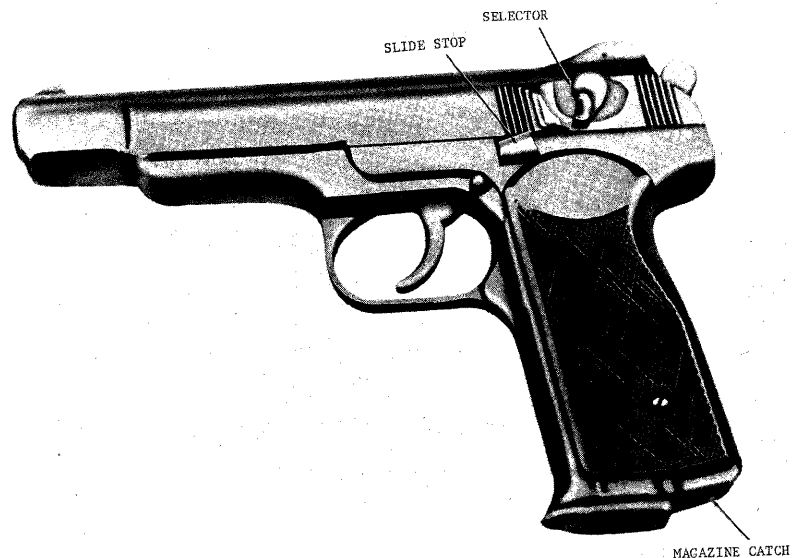

Figure 21. Soviet Stechkin machine pistol (APS).
a. Machine pistols resemble conventional pistols, but have one major distinguishing characteristic—a selective fire option; i.e., they can be fired either automatically or semiautomatically. In addition, these pistols usually have large-capacity magazines and some type of a shoulder brace or stock to aid in accurate long-range firing. The Soviet Stechkin machine pistol (fig 21) was issued in limited numbers, and although now obsolete, it may be in use by special units such as border guards, security police, or in countries given Soviet military aid.
- a. Insert the magazine into the pistol until the magazine catch (fig 21) retains the magazine.
d. Position the selector (fig 21) for the type of fire desired—at **OD** for semiautomatic fire, at "ABT" for full-automatic fire, or at **HP** for safe.
f. Remove the magazine by pressing the magazine catch (fig 21) rearward and pulling the magazine out of the pistol. The slide can be closed by pressing the slide stop down or by pulling the slide rearward and releasing it.
d. The extractor holds the fired cartridge case to the face of the slide until the case strikes the ejector. The ejector, an extension on the slide stop (fig 21), expels the fired case from the pistol. The driving spring forces the slide forward; during the forward movement, a cartridge is loaded from the magazine into the barrel.